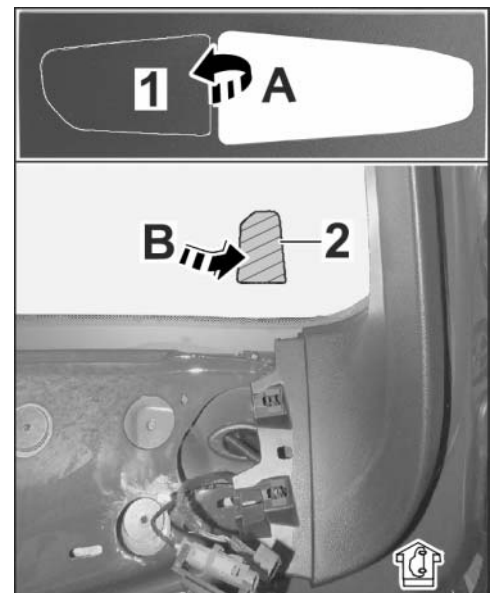

Figure 16 (Example Sport Turismo)
- 3.3.2 Pull 3M privacy film (rear camera) off the backing sheet. ⇒ *Figure 16 (Example Sport Turismo) -A-*
- 3.3.3 Position 3M privacy film on the marked bonding surface on the windscreen inside (⇒ *Figure 16 (Example Sport Turismo) -B-*) and glue it on.